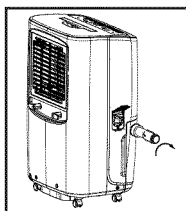

fig. 2
- Screw the drainage joint onto the threaded portion of the drainage connector of the unit securely. (fig.2&3)